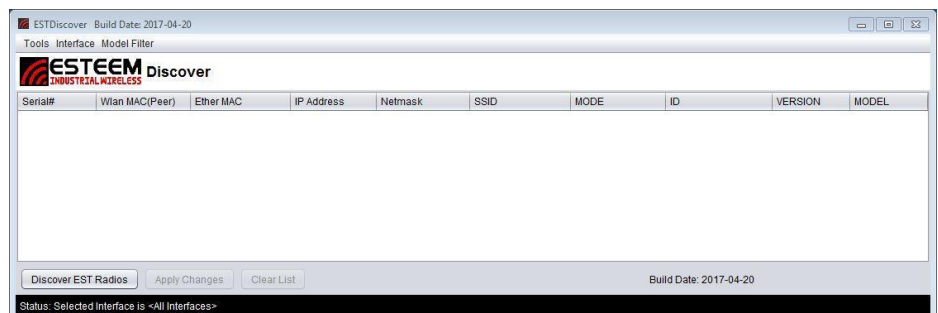

Figure 7: EST Discovery Suite
1. The Discovery Suite is a Java™ based application compatible with any computer operating system that can run Java (Window, Linux, etc). The application requires two (2) additional support files to operate:
2. Once both the above programs have been installed, save the ESTDiscover.exe file to any location on your computer such as the Desktop. Double click the ESTeem.exe program and Figure 7 will be displayed.